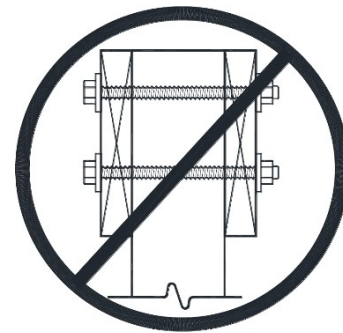

Figure 6 - Prohibited Connection
- Beams shall not be attached to the sides of an unnotched post as shown in Figure 6.